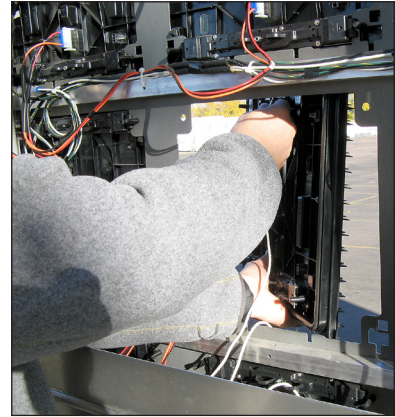

Figure 22: Rotate Module To Clear Face Sheet
1. Rotate and carefully guide the module through the module opening. Refer to **Figure 22**.